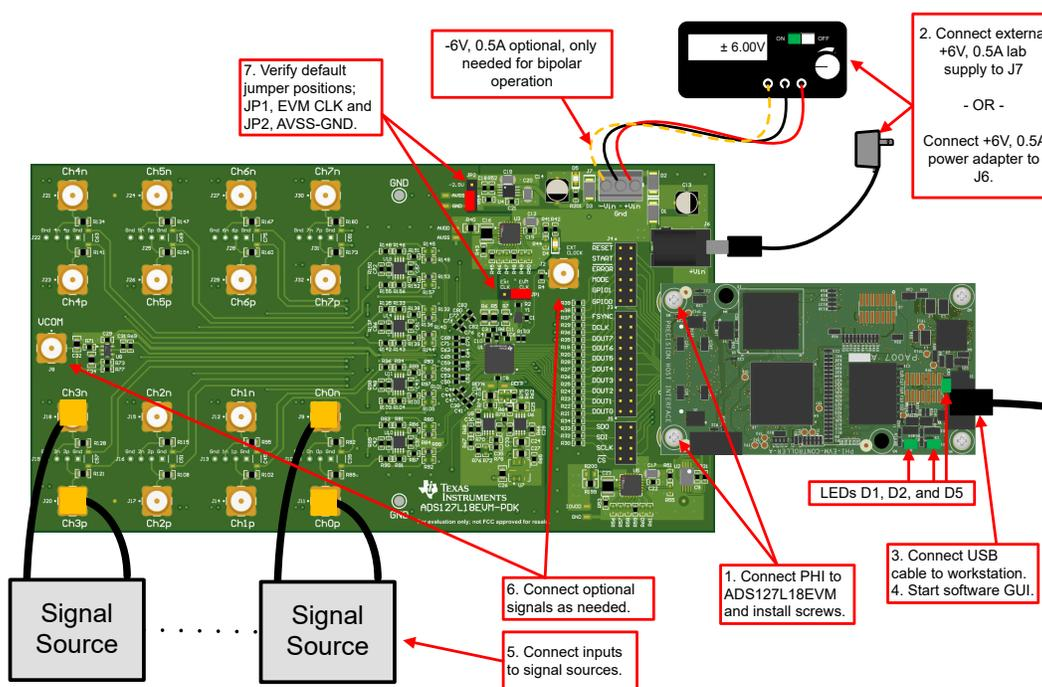

Figure 4-1. Connecting the Hardware to the ADS127L18EVM
Connect the EVM as shown in Figure 4-1 after installing the software:
- b. LEDs D1 and D2 on the PHI start blinking to indicate that the PHI is booted up and communicating with the PC; Figure 4-1 shows the resulting LED indicators.